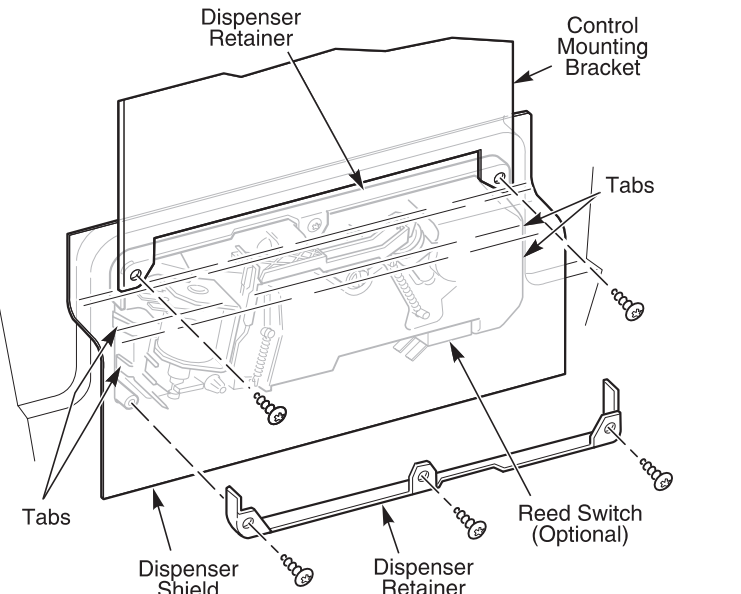

Figure 5
- Referring to Figure 5, remove the two (2) metal dispenser retainers: First remove the two (2) outer edge screws from the control mounting bracket and detergent dispenser shield. Next remove the three (3) screws from the bottom retainer, releasing it. Reach under the detergent dispenser shield to remove the remaining screw from the center hole of the upper retainer. Set the retainers aside for later reinstallation.
- Snap dispenser into place from inside the dishwasher. Close the door. Referring to Figure 5, replace the metal dispenser retainers. Install one (1) screw each into the center hole of each retainer. Place two (2) screws in the remaining holes of the lower retainer and tighten. Insert the two (2) remaining screws through the upper dispenser retainer and dispenser shield, and tighten. Make sure that the detergent dispenser shield is properly installed and captured by the top dispenser retainer.